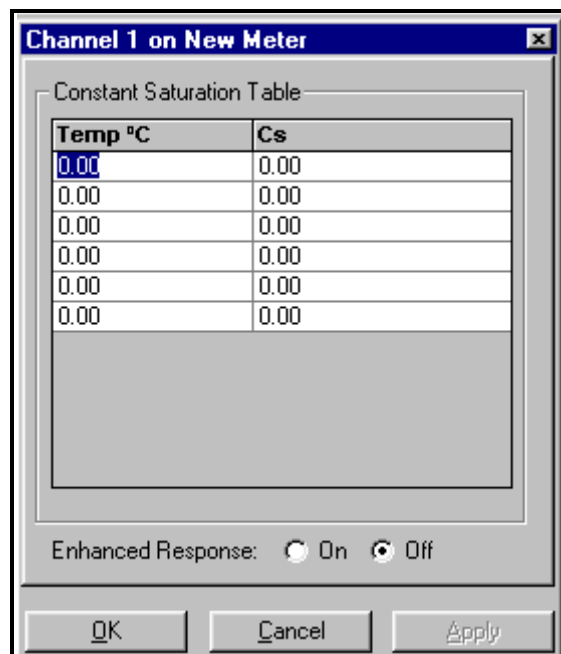

Figure 20: Constant Saturation Window
3. The “Constant Saturation Table” window appears, as shown in Figure 20 below.